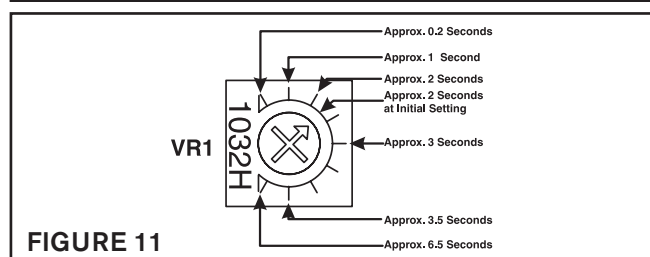

FIGURE 11
5. Adjust VR1 until the desired reset time is selected (See Figure 11 for approximate time delay positions).